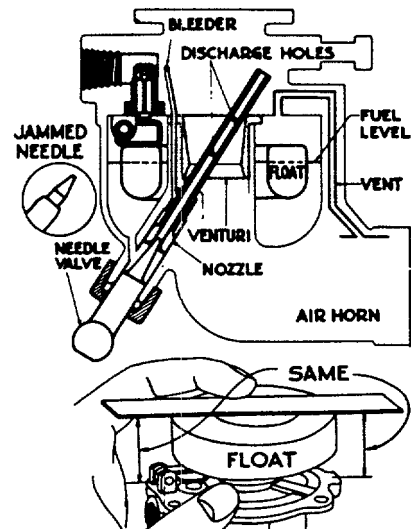

Figure 16.
To set the level on the carburetor, invert the upper body as shown. See Fig. 16. The float and the body cover should be parallel. If not, bend the tang on the float to obtain this position. The actual distance on the small carburetors is 5/16 of an inch between the float and the gasket. On the larger models it is 3/16 of an inch. It is seldom necessary to measure this distance. The float level is not as critical as on some carburetors. Remember, however, that there should be one gasket between the float valve seat and the carburetor. No gasket or two gaskets will change the float level
Here is shown the position of the nozzle and the fuel level. See Fig. 16. The fuel in the bowl seeks its own level, which is well below the discharge holes. Notice that the discharge holes are in the venturi, the place of greatest air velocity. As the piston in the cylinder moves down with the intake valve open, it creates a low pressure area that extends down into the carburetor throat and venturi. Two things start to happen
The ideal combustion mixture is about 14 or 15 pounds of air, in weight, to one (1) pound of gasoline. Remember that an engine operating under heavy load requires a richer mixture than under light load. In order to regulate the mixture, we place in the carburetor a threaded needle valve with a tapered point which projects into the end of the nozzle. See Fig. 16
The inset of Fig. 16 shows what happens when the needle valve is turned too far. A square shoulder is produced on the taper. It is possible, of course, to adjust the carburetor with the needle valve in this condition, but it is quite difficult, because a small movement of the needle makes a big difference in the amount of fuel that can enter the nozzle. And, if you do get it adjusted, the vibration can soon throw it off